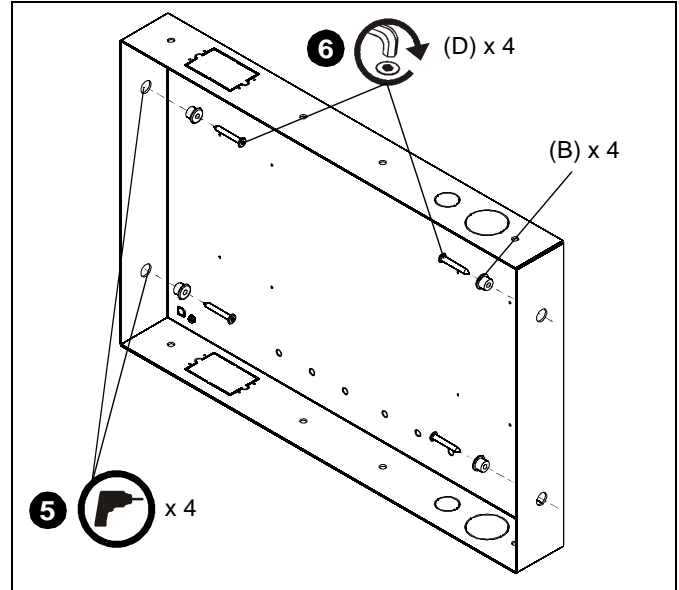

Figure 4
5. Drill four 3/16" diameter pilot holes in studs at side mounting holes. (See Figure 4)
6. Attach the PAC501 (A) to side studs using four M7 x 50mm Allen head connector screws (D) and mounting spacers (B) using an M4 Allen head drill bit (E). (See Figure 4)